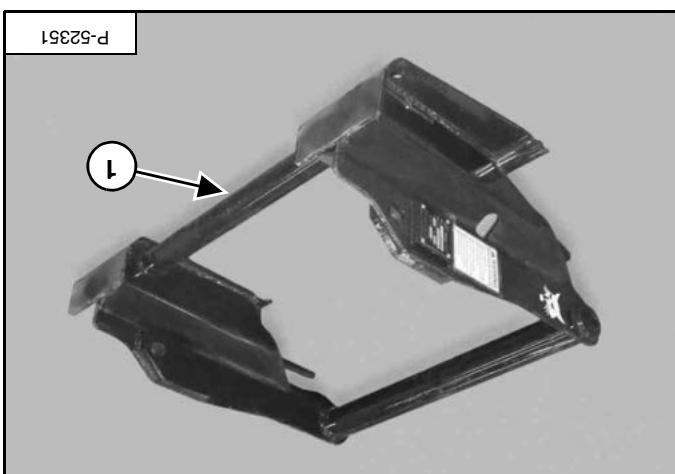

Figure 75
The adapter frame (item 1) [Figure 75] is required to properly mount the sweeper to the Telescopic Handler.